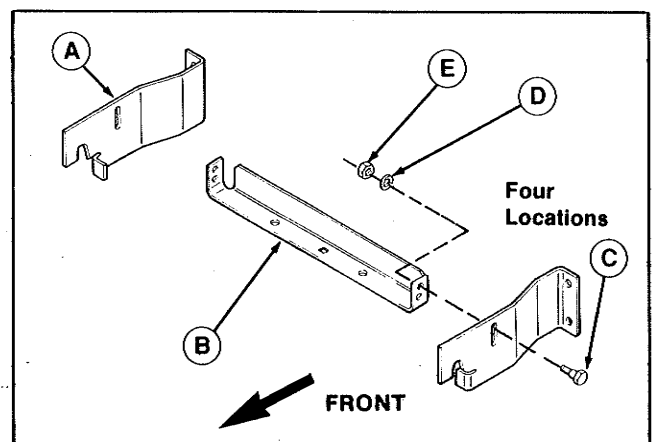

Figure 12.
19. Assemble the side plates (A, figure 12) to the drawbar (B) support with four 5/16-18 x 3/4" flange capscrews (C), lockwashers (D), and nuts (E). Leave hardware loose until after drawbar is installed to frame supports.